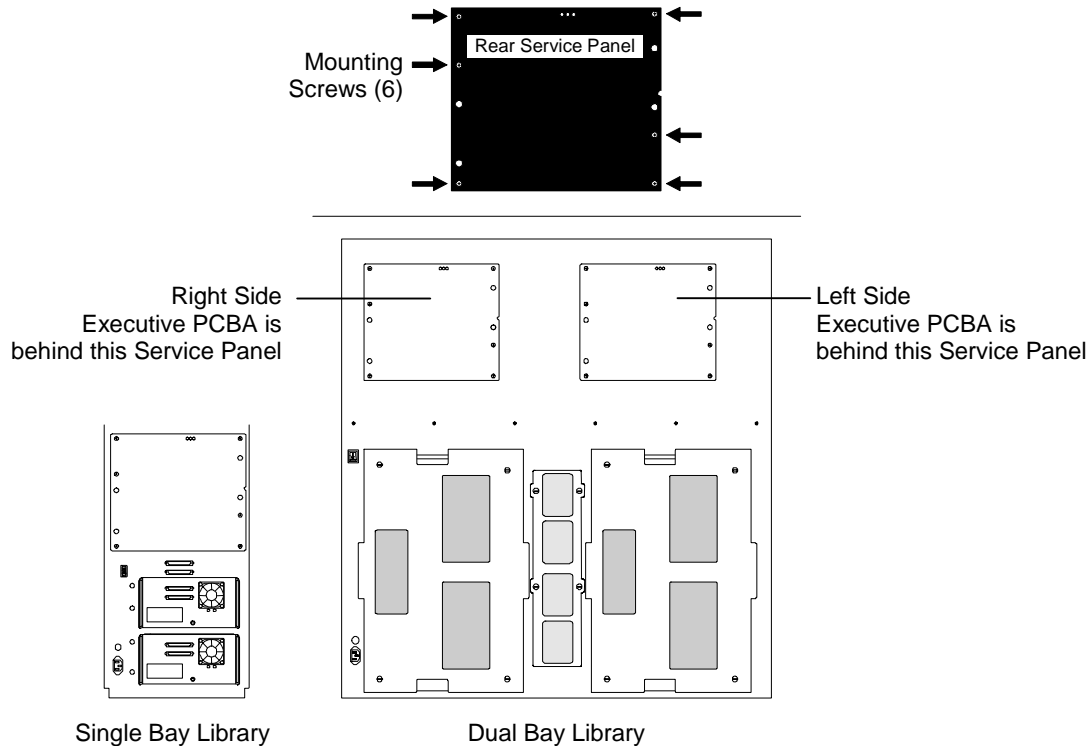

Figure 8-15 Rear Service Panels
2. Use a number 2 Phillips screwdriver to remove all six Rear Service Panel mounting screws, then remove the Rear Service Panel (Figure 8-15).